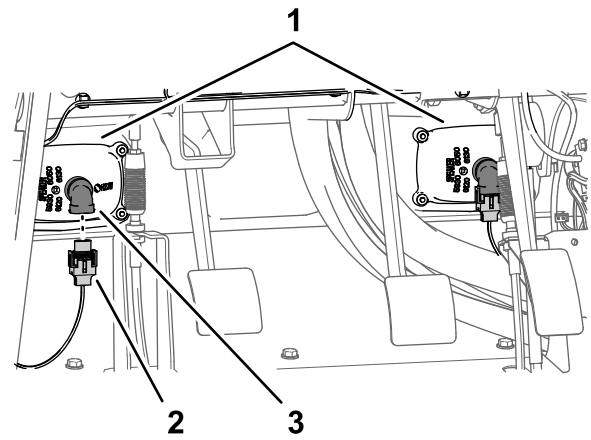

Figure 248
3. Connect the 2 electrical connectors (2-socket) of the machine wire harness from the 2-pin connectors of the left and right headlights (Figure 248).
1. Align the inner-fender shroud to the left, upper- and left, lower-frame tubes (Figure 248).